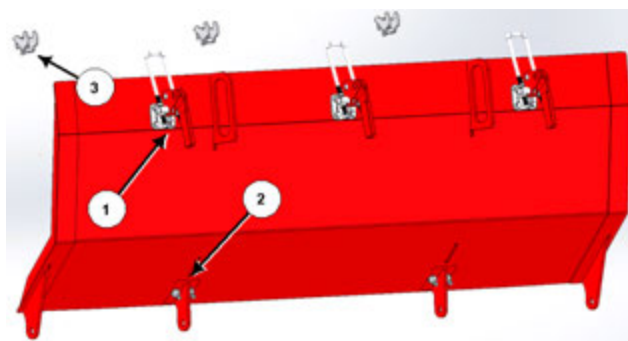

Figure 36: Install clamp latches and hinges
1. Prior to installing the flail drum door (Item No. 8 in Table 3) onto the machine, follow the below steps and see Figure 36:
- a. Install the 3 clamp latches (1) onto the door using $\frac{1}{4}$ " x $\frac{3}{4}$ " hex bolts and $\frac{1}{4}$ " flange lock nuts.
- b. Loosely fasten the 2 hinges (2) on the door using $\frac{3}{8}$ " x 1" carriage bolts and $\frac{3}{8}$ " flange lock nuts.
- c. Fasten the latch hooks (3) into the pre-drilled holes on the guard rod side sheet using $\frac{1}{4}$ " x $\frac{3}{4}$ " hex bolts and $\frac{1}{4}$ " flange lock nuts.